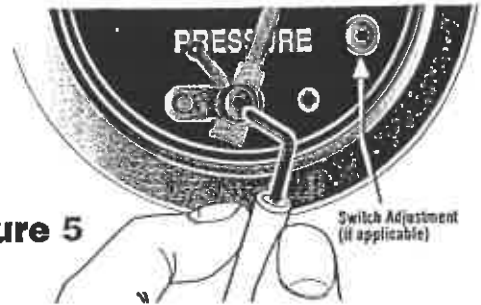

Figure 5
1. All contacts are set using a 1/16 in. hex wrench (Figure 5).
1. With equipment running; use a 1/16 in. hex wrench to rotate contact until touches the pointer. Do NOT force contact against the gage points. Equipment should shut down and/or alarm should operate. Reset the contact (See Figure 5).